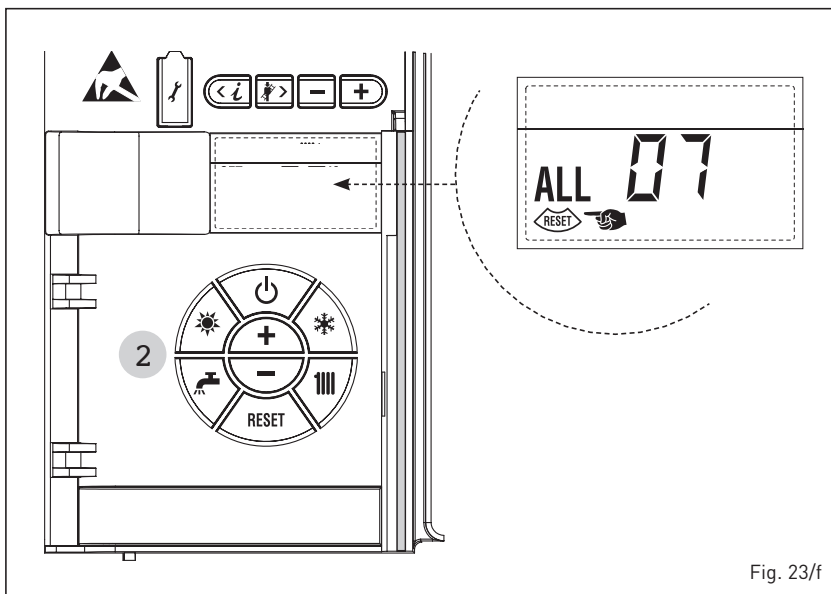

Fig. 23/f
**- FLAME DETECTION ERROR ALARM 08 (fig. 23/g)**